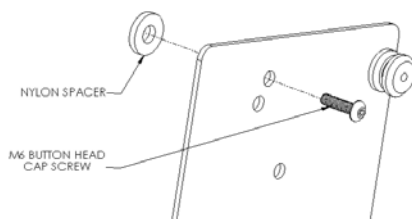
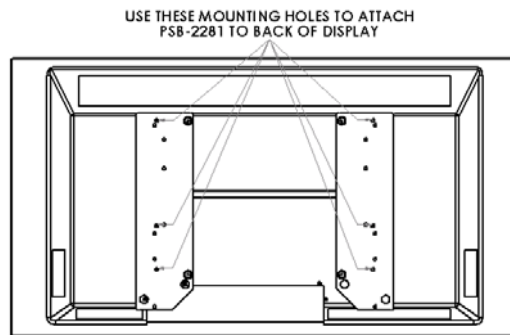

Figure 3
Figure 4
2. Place Nylon spacers over mounting holes on back of screen. Attach mounting brackets to the display using the M6 button head cap screws (see Figure 3 & Figure 4).